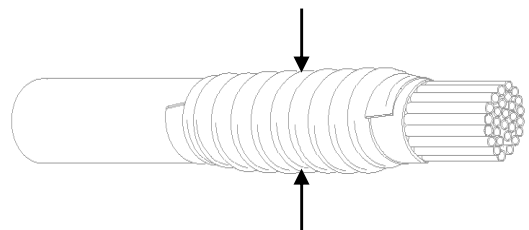

Figure 22
11.5 Then use Cable Mea-Sure Tape to determine blade size following PLP standard recommended procedures. Consult PLP End Plate Assembly instruction sheet on how to interpret Cable Mea-Sure Tape readings. **See Fig. 22.**